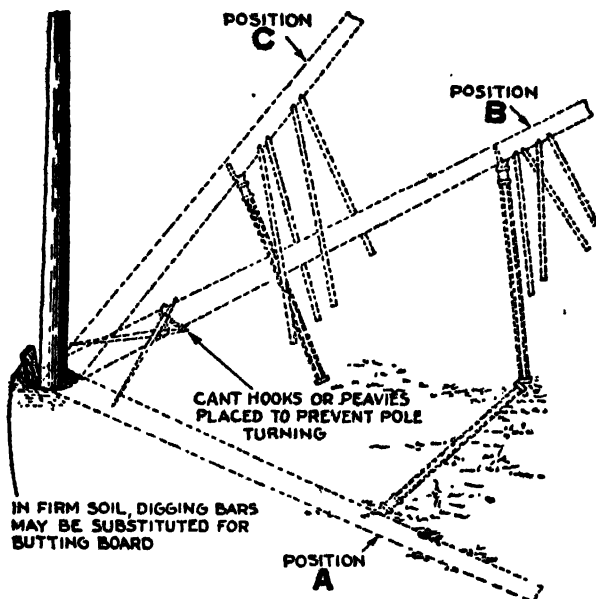

Figs. 5,855 and 5,856.—Erecting poles, 1st Method.
FIGS. 5,847 TO 5,854.—How to face cross arms. A, on straight section; B, on curve; C, at corner; D, two pole corner; E, at dead ends, toward end of line on last 2 poles; F, at long spans, away from long span; G, at steep grades, toward top of grade; H, on grade.
Set the poles so that ridge of pole roof is in line with lead. Ridge of junction pole roof should be in line with main lead. Ridge of stub roof should be in line with guy. The proper facing of the cross arms is shown in figs. 5,847 to 5,854
**FIG. 5,857.—Erecting poles, 2nd Method.** Place butting board (used in soft soil) or digging bars (used in firm soil) in the hole. Move pole into place with butt against butting board. Place deadman or jenny in position along the ground where footing will be secure, and station a man to attend it. Position A. Lift pole and deadman to position B. If pole be brought into place on a dinkie, lift top of pole and place deadman underneath. Place 2 cant hooks or peavies, one to pull against the other so as to serve as a means to prevent the pole turning as it is being raised. The cant hooks or peavies should be placed about 2 feet above probable ground line. When a pole is treated, the hooks must not penetrate the treated wood. Station a man to hold the hooks as the pole is being raised. Place pike poles near the top of pole, one on each side, to steady the pole as it rises and the others underneath the pole. At this stage, the side pikes should be held with the two hands separated and the lift pikes should be held in the hollow formed by clasped hands. Raise the pole, then move the deadman down until it supports the pole again. Position C. In changing the location of the deadman, keep it in instant readiness to support the entire weight of the pole. Pole may be lifted from position B, to position C, by hand, if more convenient. Apply pikes further down the pole. Position C. Shift the pikes one at a time. Raise the pole again. When the pole passes the 45° angle, the men on lift pikes may work to better advantage if they use one hand to support the butt of the pike at the level of the shoulder and the other hand to guide the pike. Repeat this operation until the pole can be piked directly into the hole. When the pole commences to slide into the hole, remove the deadman so that it will not interfere with the movement of the pole. Line up pole with cant hooks or peavies and steady it with pikes while backfilling and tamping.
**First Method.**—Setting by pole derrick operated by power winch on automobile truck. This method, as shown in figs. 5,855 and 5,856, will prove to be the most economical and safest way of erecting poles in practically
**FIG. 5,858.—Erecting poles, 3rd Method.** Erect a gin pole of suitable length as near as practicable to the hole which has been dug for the line pole. Where there is danger that the gin pole butt will slip to one side under load, dig a shallow hole for the gin pole butt. Where there is no danger of this, the gin pole butt may be set on the ground, or on a plank if the soil be soft. Guy the gin pole as shown. Attach blocks to gin pole about 6 ins. from top of pole. Attach lower end of tackle to line pole just above balance point. Haul away on tackle, guiding the pole as it rises, either by pressure on the butt or by pike poles. Lower pole into hole. Line up pole with cant hooks or peavies and steady it with pikes while back-filling and tamping.